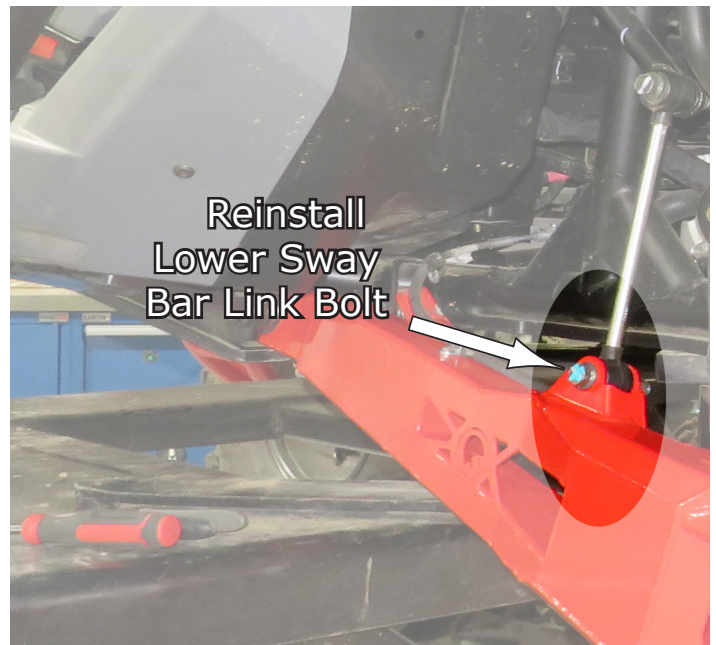

Fig.16
17. Then, reinstall the bottom Sway Bar Link Bolt removed previously and tighten down. See **Fig.16**.